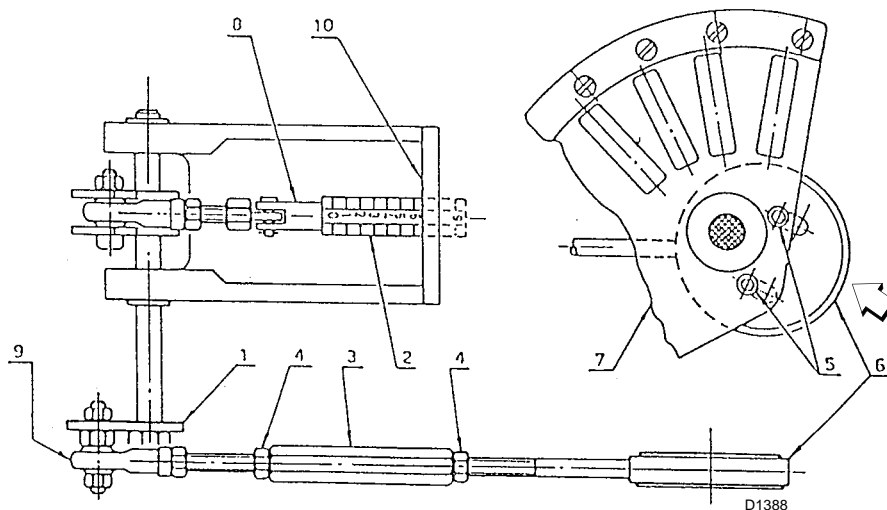

Fig. 13
Head position can be seen on cylinder 2)(Fig. 13). The head control lever systems are factory-calibrated for maximum travel.
To avoid causing knocking, never exceed maximum and minimum aperture positions corresponding, respectively, on cylinder (2) (Fig. 13), to notch 9 with the servomotor at 130° and notch 0 with the servomotor at 0°.
Having completed the adjustment, fully secure nuts 4) with ball-joint 9) positioned as shown in the (Fig. 13).